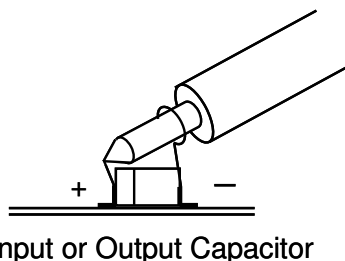

Figure 2. Scope Probe Placements for Measuring Input or Output Ripple.
4. Once the proper output voltage is established, adjust the load within the operating range and observe the output voltage regulation, ripple voltage, efficiency and other parameters. Output ripple should be measured across the output bulk capacitor as shown in Figure 2.